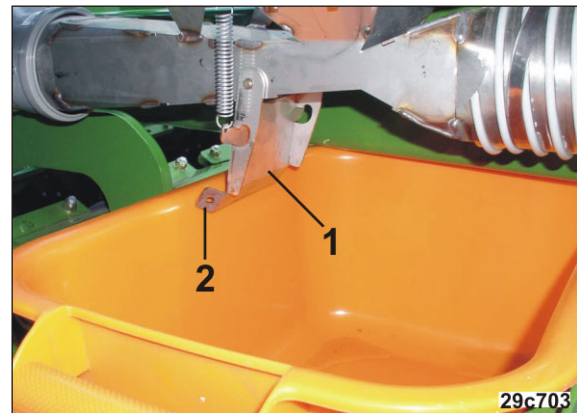

Fig. 195
3. Empty the injector sluice (Fig. 195/1).
- 4.1 Open the injector sluice flap (Fig. 195/1).
Risk of contusions on opening and closing the injector sluice flap (Fig. 195/1)!
Hold the injector sluice flap only by the lug (Fig. 195/2), otherwise there is a danger of injury when the spring-loaded injector sluice flap snaps closed.
10. Close the injector sluice flap(s) (Fig. 195/1).